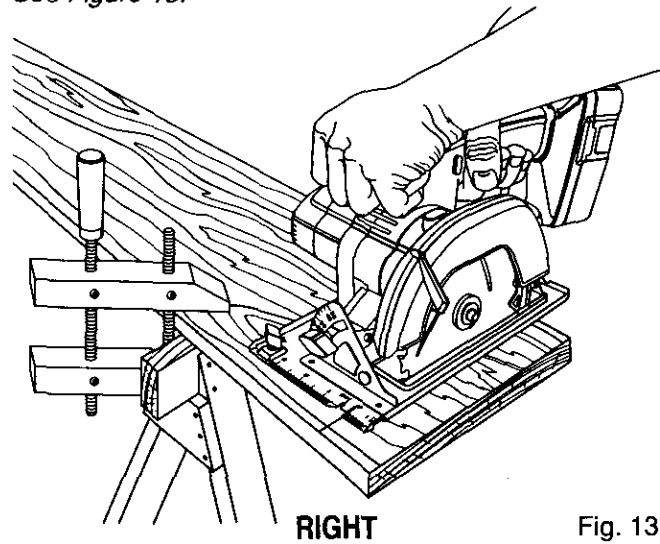

Fig. 13
*See Figure 13.*
See Figure 13.